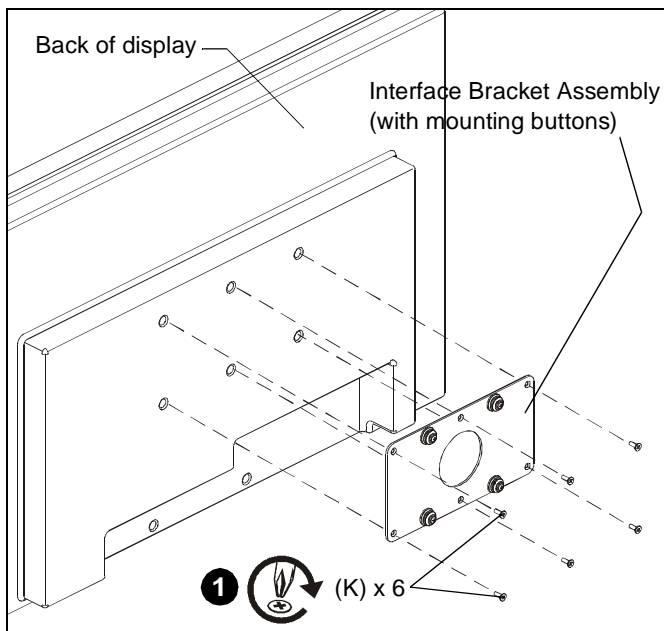

Figure 2
1. Assemble interface bracket assembly (with mounting buttons) to display using six M4 x 12mm Phillips flat head screws (K). (See Figure 2)